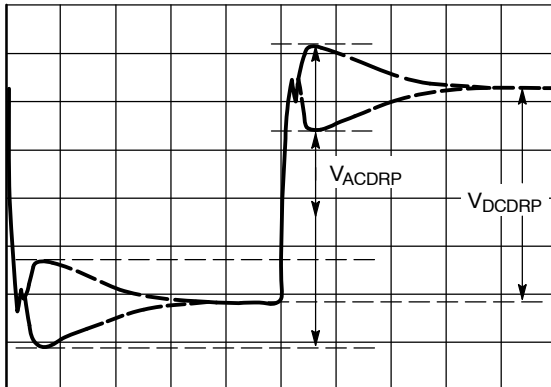

Figure 37. AC Load Line Waveform
5. The resulting waveform will be similar to that shown in Figure 37. Use the horizontal cursors to measure  $V_{\text{ACDRP}}$  and  $V_{\text{DCDRP}}$  as shown in Figure 37. Do not measure the undershoot or overshoot that occurs immediately after the step.